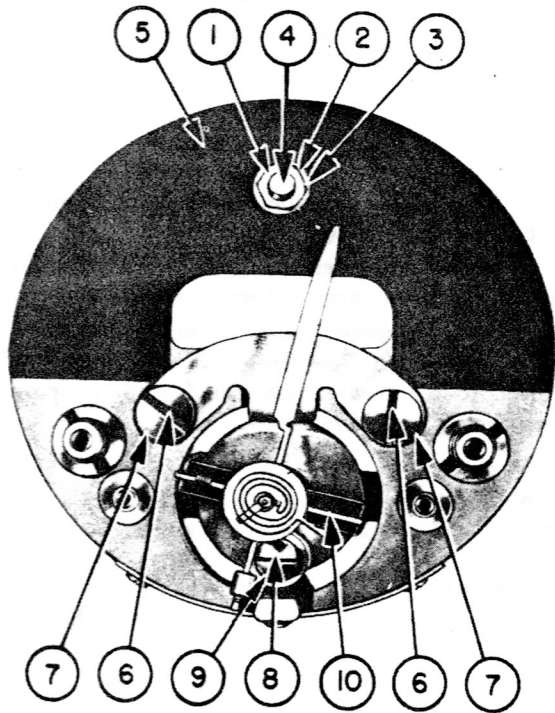

Figure 244—Magnet, Core, and Moving Element Removal.
4. MAGNET, CORE, AND MOVING ELEMENT REMOVAL. (See figure 244.)
b. Remove nut (1), lock washer (2), washer (3), and magnet stud (4).
c. Pry magnet (5) from pole piece assembly and slide magnet out.
d. Remove screws (6) and lock washers (7).
e. Remove screw (8) and lock washer (9).
f. Tilt mechanism toward the magnet end of the pole piece and lift core bracket assembly and moving element (10) from the pole piece structure. Be careful. Avoid damage to the moving element during this operation.